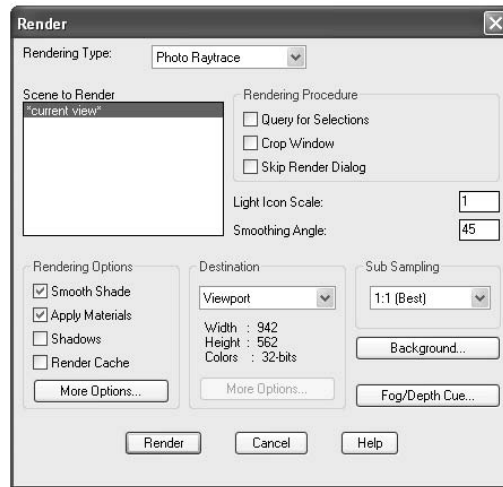

FIGURE A.34: The Render dialog box
1. Click the Render button on the Render toolbar to open the Render dialog box (see Figure A.34).